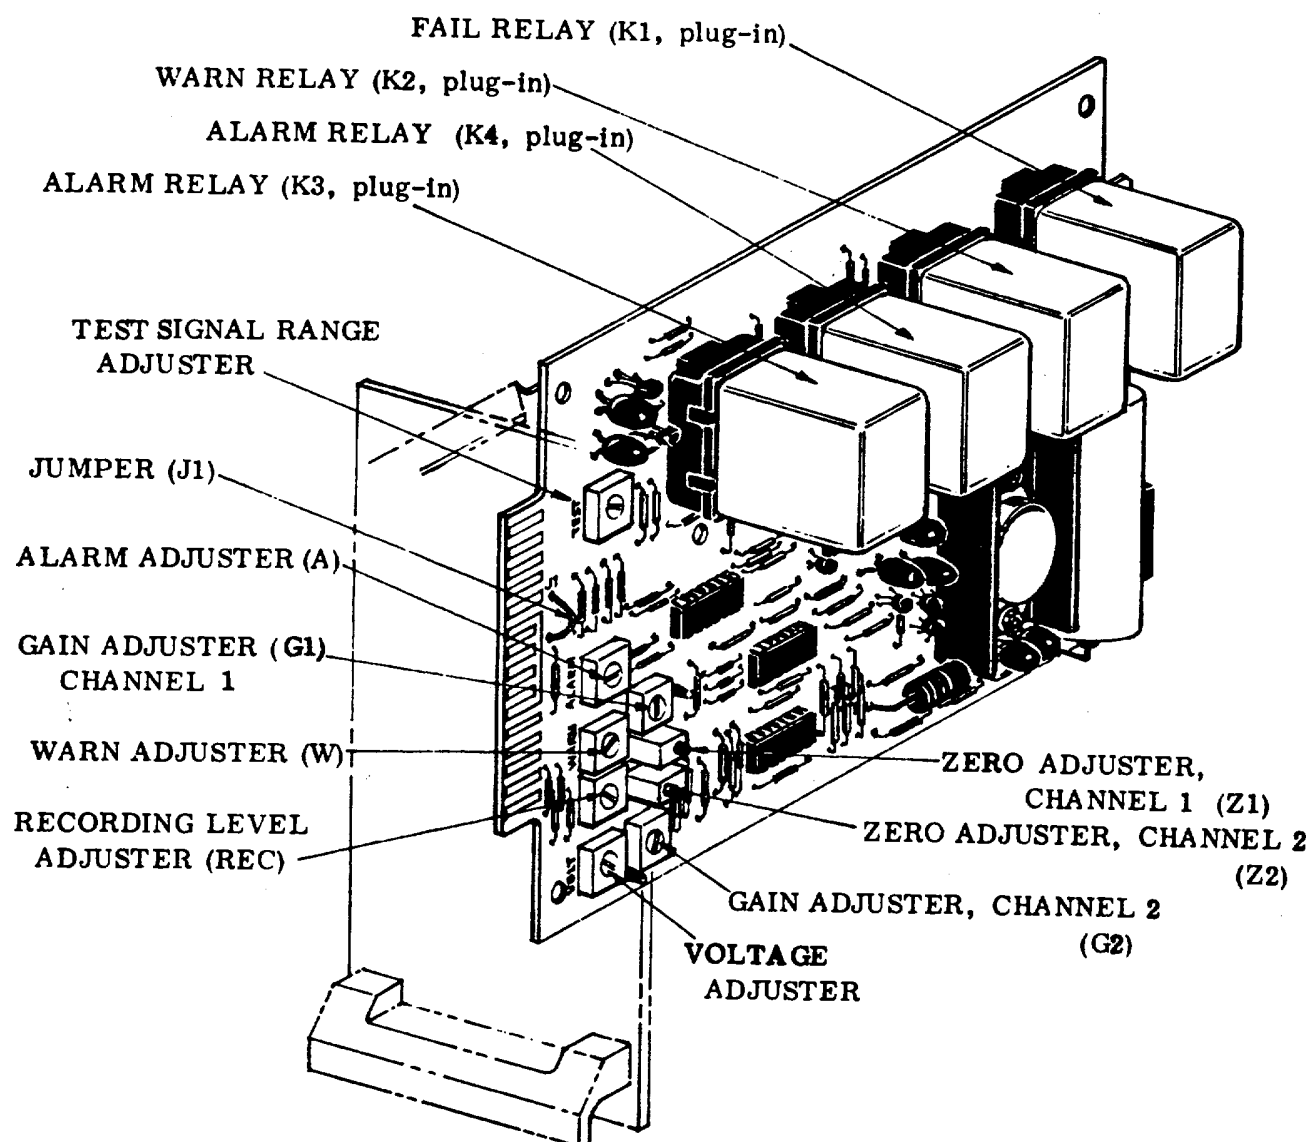

Figure 1-22. CD802/832 Circuit Board: Relays and Adjusters for Dual-channel Systems
2. **ZERO Adjuster**: Potentiometer with adjustment screw; labeled ZERO on printed circuit board; turned to adjust signal voltage for zero meter reading with fresh air (containing no combustible gases or vapors) at the detector(s). The CD800/830 circuit board has one ZERO adjuster (Figure 1-19); the CD802/832 circuit board has two (one for each of the two independent signal channels, Figure 1-22).
3. **GAIN Adjuster**: Potentiometer with adjustment screw; labeled GAIN on printed circuit board; turned to adjust signal amplification for accurate percent L. E. L. meter readings of concentrations of specific gas or vapor to be monitored. Also turned to compensate for gradual depletion of catalyst in the expendable detector sensor and the consequent slowly diminishing response. The CD800/830 circuit board has one GAIN adjuster (Figure 1-19); the CD802. 832 circuit board has two (one for each of two independent signal channels, Figure 1-22).
4. **TEST Signal Range Adjuster**: Potentiometer with adjustment screw; labeled RANGE on the CD800/830 printed circuit board (Figure 1-19), and TEST on the CD802/832 circuit board (Figure 1-22). This adjuster is turned to obtain full-scale meter pointer deflection when the TEST pushbutton is pressed.
7. **Recording Signal Level Adjuster**: Potentiometer with adjustment screw; labeled RECORD on CD800/830 circuit board (Figure 1-19), and REC on CD802/832 circuit board (Figure 1-22). This adjuster is turned to set the recorder signal output to drive an optional external recorder to record values consistent with the percent L. E. L. meter readings. Like the percent L. E. L. meter, the recorder output will display either the channel with the higher output or the channel on which the channel selector switch is set.